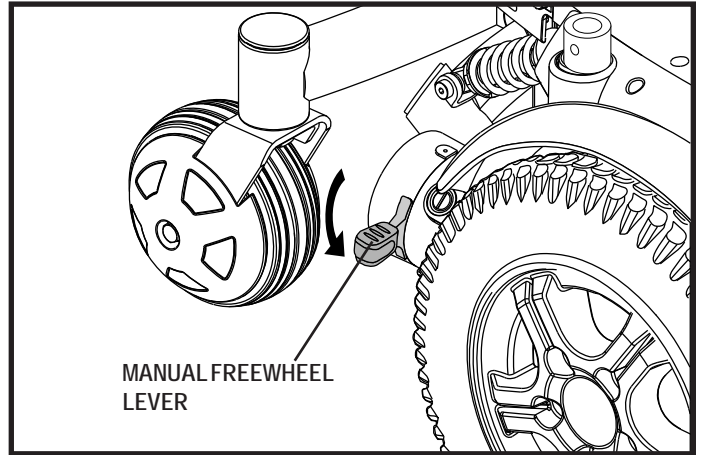

Figure 4. Drive Mode (Drive Engaged)
1. Pull up both manual freewheel levers for drive mode (drive motor engaged). **See figure 4.**